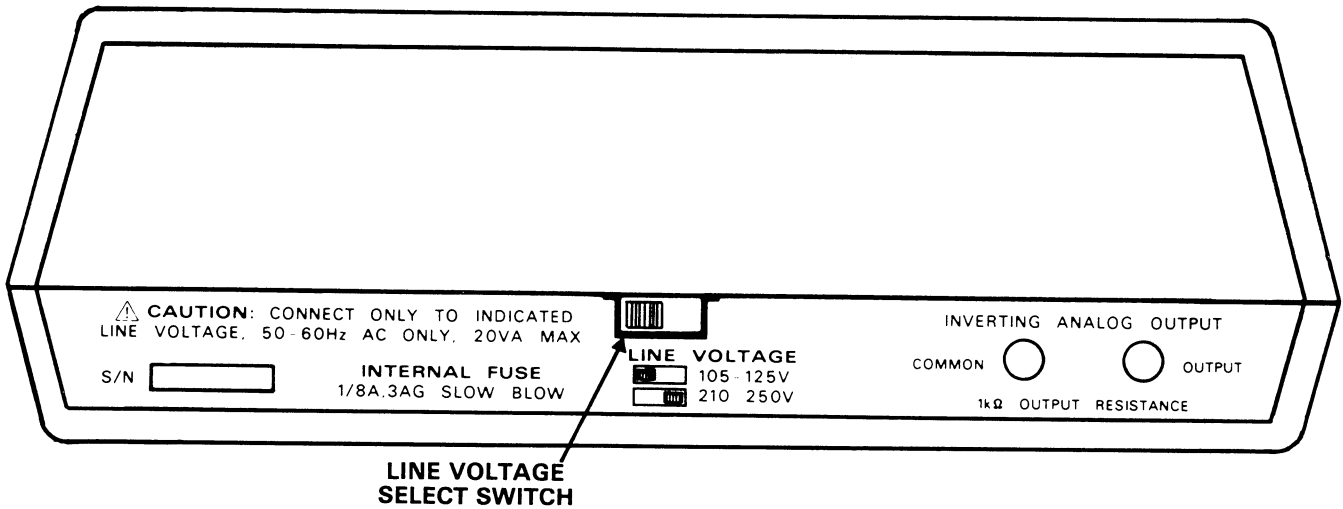
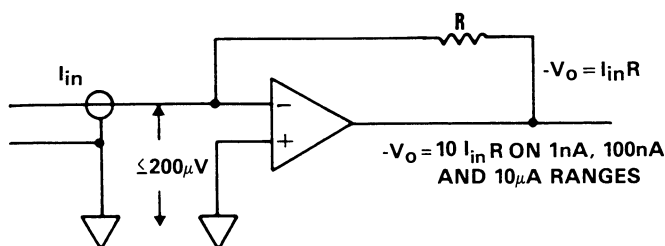

Figure 2-1. Model 480 Rear Panel
Figure 2-3. Model 480 Feedback Picoammeter
The Model 480 may be line operated from either 105-125V or 210-250V power sources. Before connecting the instrument to the power line, make sure the LINE VOLTAGE selection switch (Figure 2-1) is in the correct position.
6. Inverting Analog Output. Two banana jacks (shown in Figure 2-1) are rear panel accessible, and permit monitoring or recording of the output from the current-to-voltage converter within the Model 480. Since the 480 is a feedback picoammeter, as shown in Figure 2-3, the input current is forced through the feedback resistor and an inverted analog output voltage is developed by the operational amplifier. The feedback (Range) resistors are selected such that voltage for an on-scale reading on any range will be between zero and $\pm 2V$. The relationship between the analog output signal and the digital display is